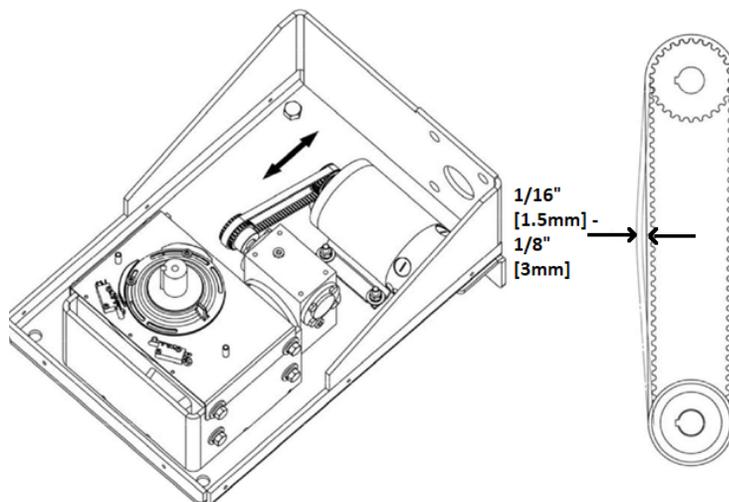

Figure 30. Drive Belt
3. With your finger, apply light outward pressure to the drive belt. If it is properly tensioned, it should only move about 1/16-inch to 1/8-inch (1.6 to 3.2mm). See Figure 30.